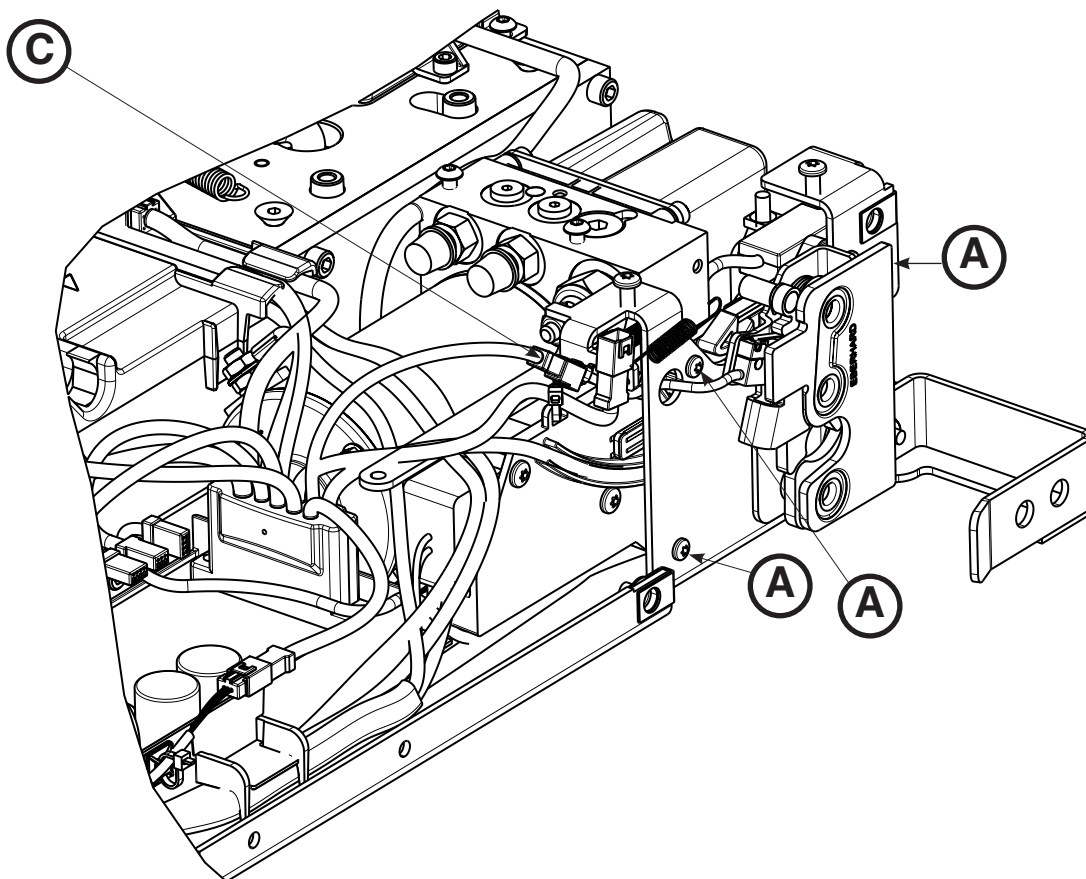

Figure 69
3. Unplug the cable (C) from the trolley actuator to the main cable assembly (Figure 69).